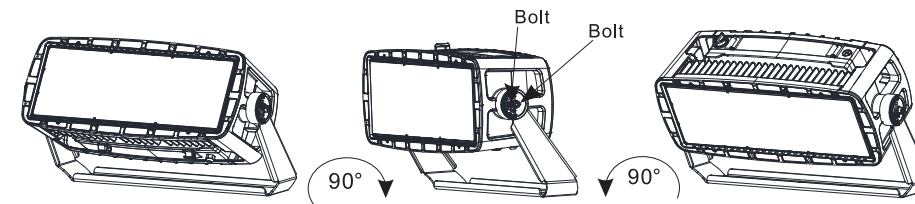

Figure 3
- Set the up/down orientation by loosening the (2) bolts on each side of the fixture where the yoke mount attaches to the fixture and rotate the fixture up or down then retorque the bolts to 22.2 ft. lbs. (Figure 3)